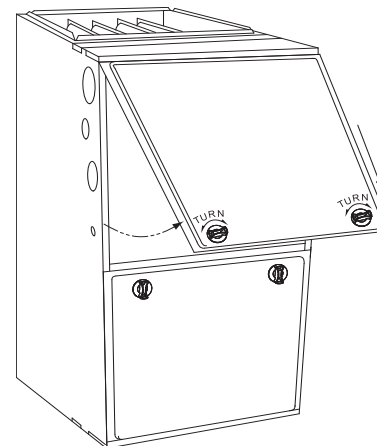

Fig. 9 – Remove Main Furnace Door (Upflow Configuration)
4. Remove the main furnace door (see Fig. 9).
4. Remove main furnace door (see Fig. 9).